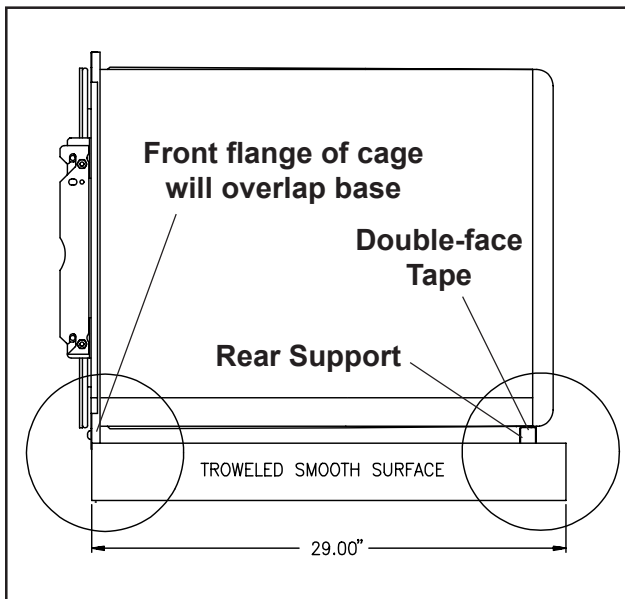

Figure 27. Cage Mounted on Site-built Concrete base
1. Place the cage on the base so that cage front flange overlaps the front of the base (Figures 27 and 28).